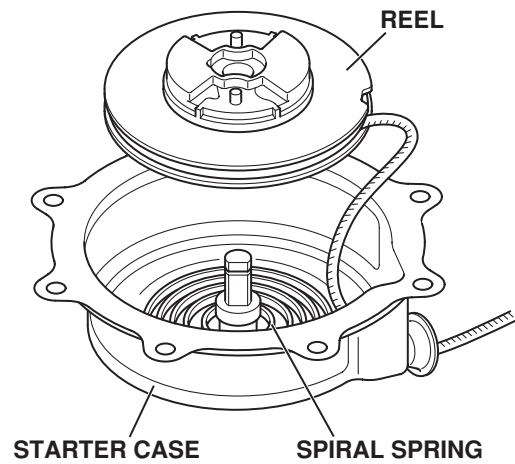

Fig. 11-3
- (4) Take out the reel from starter case as shown in Fig. 11-3.